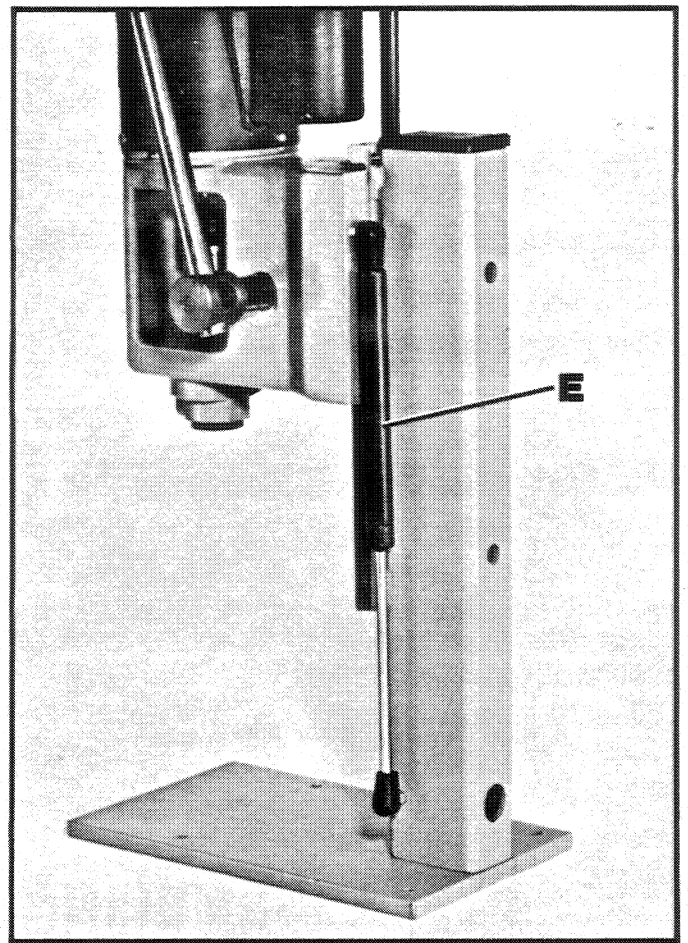

Fig. 5
4. Fig. 5 illustrates the hydraulic cylinder (E) assembled to the mortiser. The hydraulic cylinder (E) keeps the head in the up position.